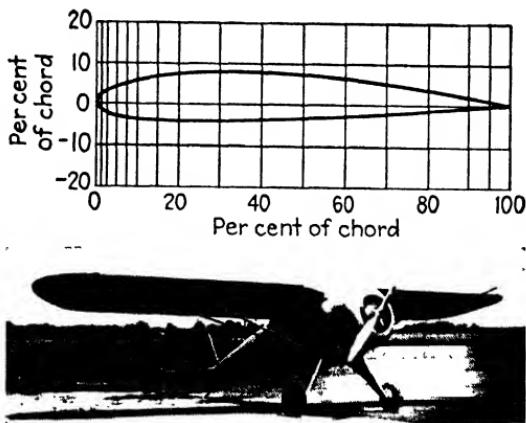

Fig. 202.—The Luscombe 90 uses this section.
4. Construct a 12-in. rib of the airfoil section N.A.C.A. 2412, using thin sheet aluminum, or wood, as a material. This airfoil is used in constructing the Luscombe model 90 (Fig. 202).